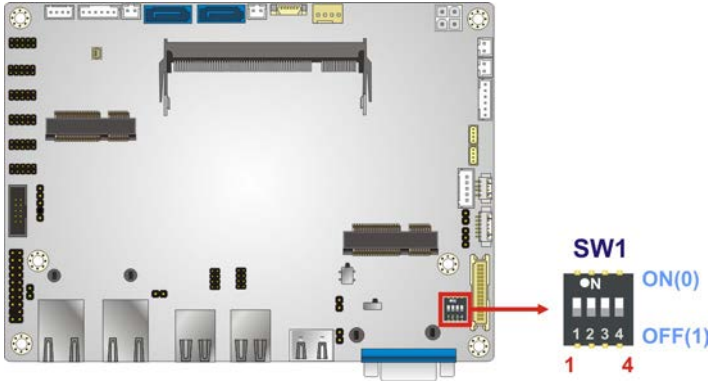

Figure 4-4: LVDS Panel Resolution Selection Switch Location
**NANO-SE-i1/KBN-i1/GLX EPIC SBC****Jumper Settings:** See **Table 4-3****Jumper Location:** See **Figure 4-4**